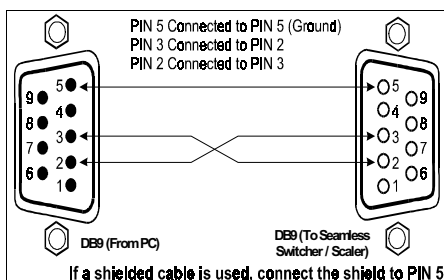

Figure 2: Connecting the PC
- Connect the RS-232 DB9 port on your PC to the RS-232 DB9 rear panel port on the **VP-720DS** or **VP-723DS** unit, forming a cross-connection³, as Figure 2 illustrates